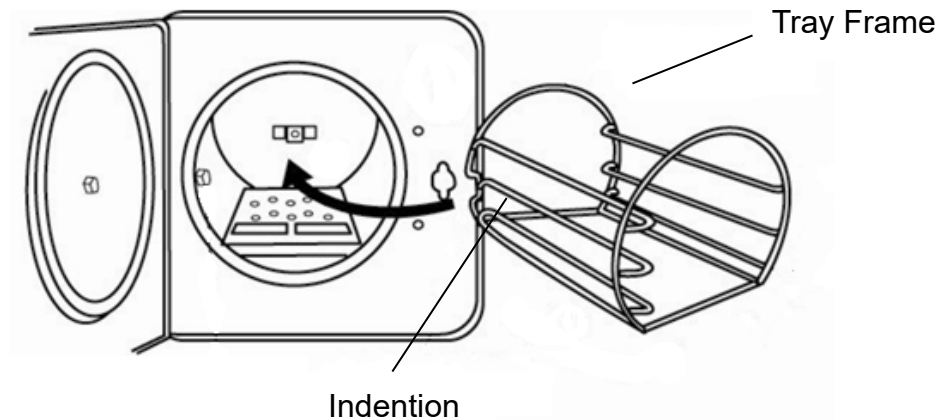

Figure 6
D. Install the tray frame as Figure 6. (optional accessory)
⚠ Caution: The frame should be installed as Figure 6 below. The indentation of the frame will pass the bushing in the chamber.